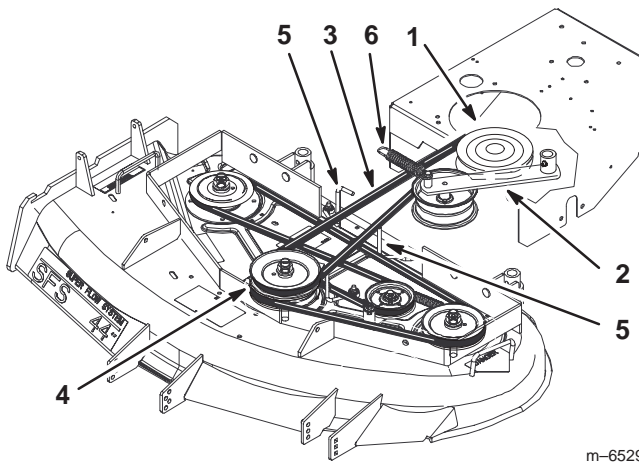

Figure 78
4. Remove the idler spring from idler arm. Remove the drive belt from the PTO engagement pulley and the center spindle pulley (Fig. 78).
5. Remove the worn drive belt (Fig. 78).
6. Install the new drive belt onto the PTO engagement pulley and the top groove of the center spindle pulley (Fig. 78).
7. Install belt onto idler pulley and then install idler spring (Fig. 78).
8. Adjust PTO drive belt guides an 1/8 inch (3 mm) from belt (Fig. 78).